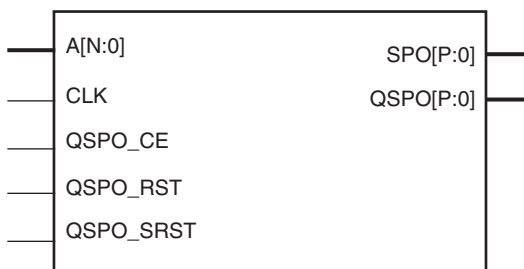
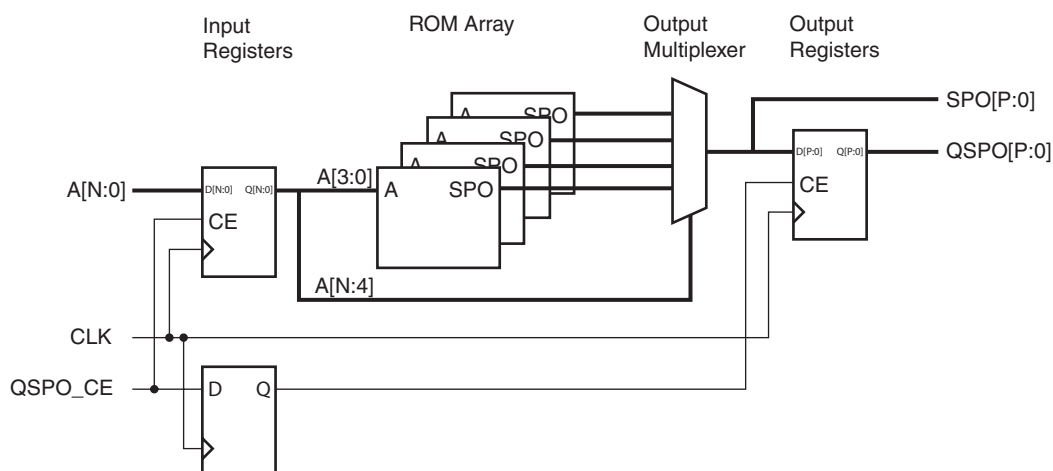

Figure 1: Distributed ROM Schematic Symbol
Figure 2: Distributed ROM Module Schematic
To create the distributed ROM, the core parses the initialization data provided by the user-supplied COE file. From that data, any necessary logic or optional registering is inferred and created. Figure 1 shows the distributed ROM schematic symbol, and Figure 2 illustrates one of the possible implementa-
- **ROM.** Figure 2 is a schematic of the structure of the ROM modules. The address register is optional (controlled by the setting of the Input Options parameter). Output registering is also optional (controlled by the setting of the Output Options parameter). Note that the clock is not required when these registers are not present. The resets and clock enables are optional.